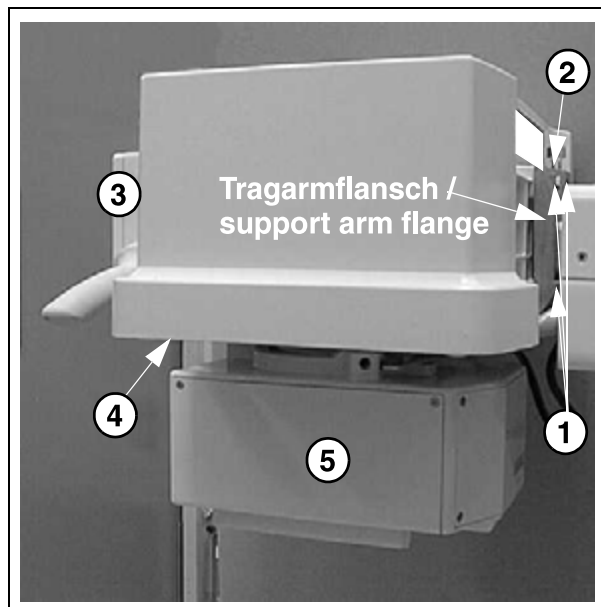
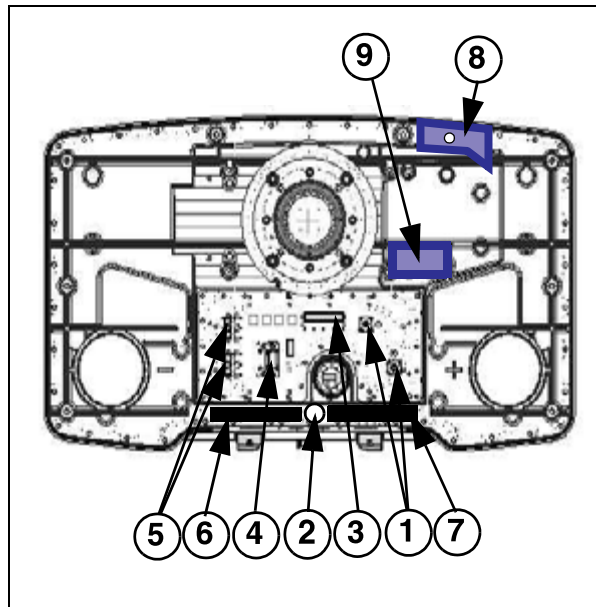
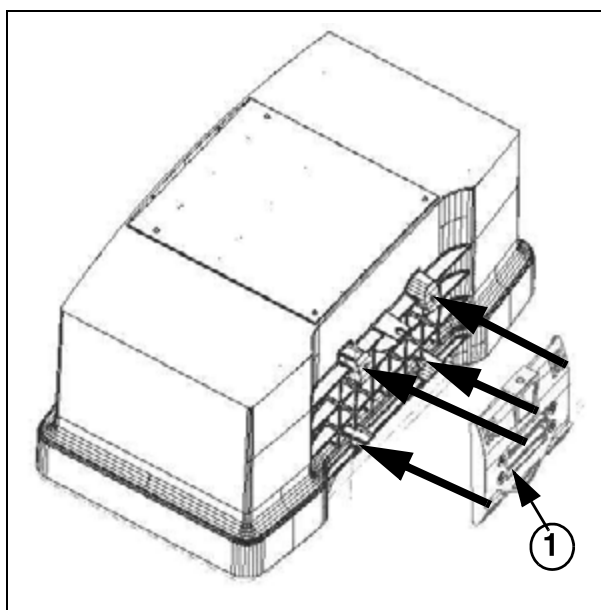

Fig. 18:
Fig. 19:
Fig. 20:
- Remove the collimator and disconnect the connection cable (5/Fig. 18 / p. 38).
- Remove the top cover on the single tank, disconnect the ground wire (4/Fig. 18 / p. 38).
- Disconnect all single tank cables (Fig. 19 / p. 38) and strain relief parts (6, 7/Fig. 19 / p. 38).
- Disconnect the unit control console and connection cables (3/Fig. 18 / p. 38).
- Disconnect the mounting parts in the single tank (8, 9/Fig. 19 / p. 38).
- Remove the 4 mounting screws on the support arm flange on the tube unit support arm (1/Fig. 18 / p. 38), (Fig. 20 / p. 38) for the single tank.
- Lift the new single tank X-ray tube unit out of the transport packaging and position it near the stand support arm (Fig. 21 / p. 40), (Fig. 22 / p. 40), (Fig. 23 / p. 40), (Fig. 24 / p. 40), (Fig. 25 / p. 41), (Fig. 26 / p. 41) and (Fig. 18 / p. 38).
- Secure the stand support arm with the support arm flange using the 4 mounting screws (see removal) on the single tank X-ray tube unit (1/Fig. 18 / p. 38); (Fig. 20 / p. 38).
- Connect the power cable (W530) to X11 and X13 (1/Fig. 19 / p. 38), connect the shielding of the power cable to the PE grounding point (2/Fig. 19 / p. 38),
⇒ **The nuts for the connection of the power cable (1/Fig. 19 / p. 38) must be tightened to a torque of 4.5 Nm and the nuts for the shielding must be “hand-tight” (2/Fig. 19 / p. 38)!**
- Connect the rotating anode cable (W_ST101) to X5 (3/Fig. 19 / p. 38),
- Connect the signal cable (W523) to X7 (4/Fig. 19 / p. 38),
- Connect the heating cable to X1 and X3 (5/Fig. 19 / p. 38).
- Lay the cables to the unit control console (3/Fig. 18 / p. 38); when doing this, lay the cables to the controller under the cover panel of the single tank X-ray tube unit (4/Fig. 18 / p. 38).
- Secure the cables to the mounting plate (8/Fig. 19 / p. 38) and on the plate (9/Fig. 19 / p. 38).
- Install the strain reliefs (6, 7/Fig. 19 / p. 38) and make sure that the shieldings are under the strain reliefs.
- Plug in the ground wire for the top cover panel (4/Fig. 18 / p. 38) on the single tank X-ray tube unit and then place the top cover panel on the bottom of the single tank X-ray tube unit (4/Fig. 19 / p. 38).
- Lay the collimator cable to the collimator and connect it (5/Fig. 18 / p. 38).
- Level the single tank X-ray tube unit (2/Fig. 18 / p. 38).
- Tighten the 4 screws (1/Fig. 18 / p. 38).
- Install the collimator (5/ Fig. 18 / p. 38) and adjust it.